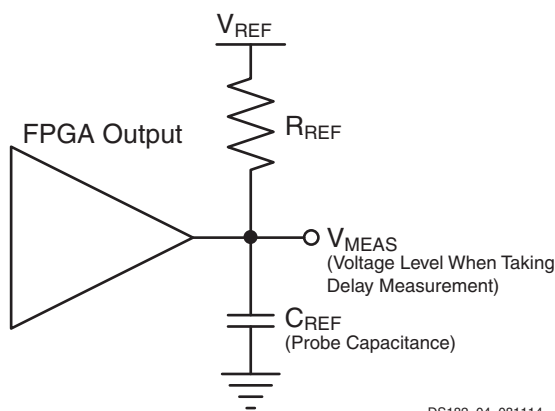
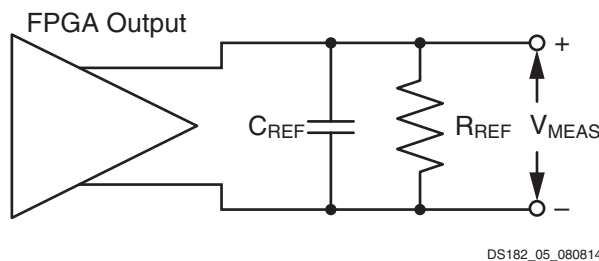

Figure 1: Single-Ended Test Setup
Figure 2: Differential Test Setup
5. This is an input voltage reference that bears no relation to the V_{REF} / V_{MEAS} parameters found in IBIS models and/or noted in Figure 1.
Output delays are measured with short output traces. Standard termination was used for all testing. The propagation delay of the trace is characterized separately and subtracted from the final measurement, and is therefore not included in the generalized test setups shown in Figure 1 and Figure 2.